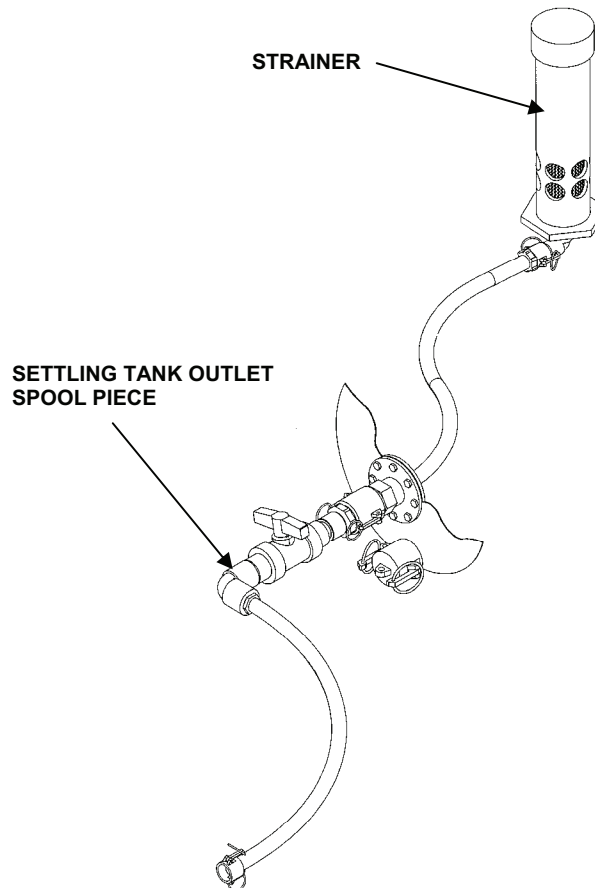

Figure 1. Settling Tank Strainer Installed.
1. Drain water out of settling tank to a level low enough to retrieve strainer. See Figure 1.